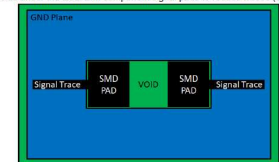

Figure 2-5. Void Below Surface Mount Devices
5. Incorporate voids under the ESD/EMI component signal pads to reduce losses: See Figure 2-5 for an example of voids below surface mount devices.
3. Do not route high-speed traces under or near crystals, oscillators, clock signal generators, switching power regulators, mounting holes, magnetic devices, or integrated circuits (IC) that use or duplicate clock signals.
- Incorporate voids under the ESD/EMI component signal pads to reduce losses (see Figure 2-5).